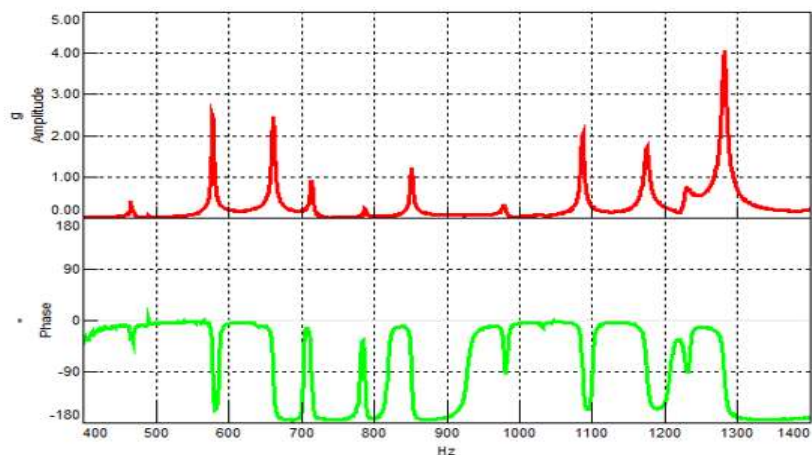

Figure 10: At each frequency there is an amplitude (top graph) and phase (bottom graph)
After performing a Fourier transform, the spectral lines (SL) are the total number of frequency domain data points. This is analogous to N , the number of data points in the time domain. There are two data 'values' at each spectral line – an amplitude and a phase value as shown in *Figure 10*.